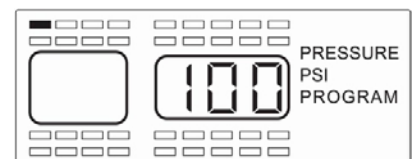
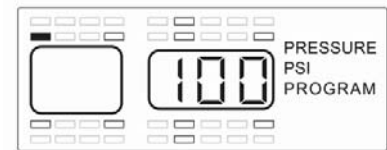

Figure 2-7
Figure 2-8
- 10) Once you have completed the sensor programming sequence for all tires, press the **P** button momentarily to move to the next step. This will be the Baseline Pressure Programming. The monitor will display as shown in Figure 2-7. If you are completely done with all of the programming operations you can press the **P** button for 5 seconds and the monitor will return to the normal mode of operation. This can be done at the end of any section of the program mode when the programming is completed.
this mode (see Figure 2-7 for screen display).
position (see Figure 2-7). The positions that already have sensors programmed to the monitor will be highlighted at this time (see Figure 2-8). You can program the air pressure from 10 PSI to 188 PSI, depending on your needs. Each wheel position can be set with a different baseline air pressure if this is what is needed. The monitor has been pre-programmed for 100 PSI at each wheel position. If this is the baseline air pressure that you need then you will not have to do anything in this mode and can press the **P** button and go to the next step. If you need to change the baseline air pressure for a wheel position, continue with steps 1-4 below: